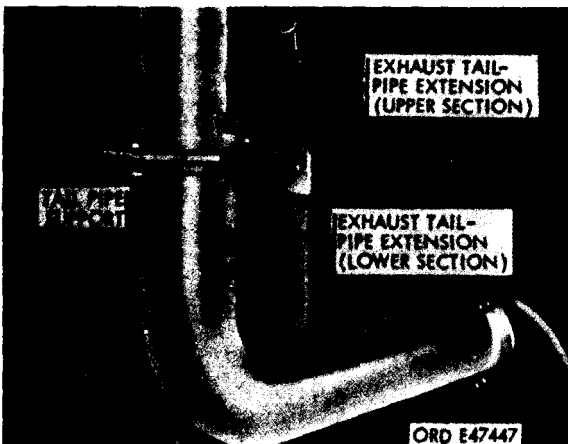

Figure 658. Exhaust tailpipe extensions installed - upper and lower sections
(3) Install air cleaner inlet tube cap (fig. 654). Slide the cap (fig. 658) on top of the air cleaner inlet tube and tighten clamp with clamp nut to secure cap to air cleaner inlet tube.